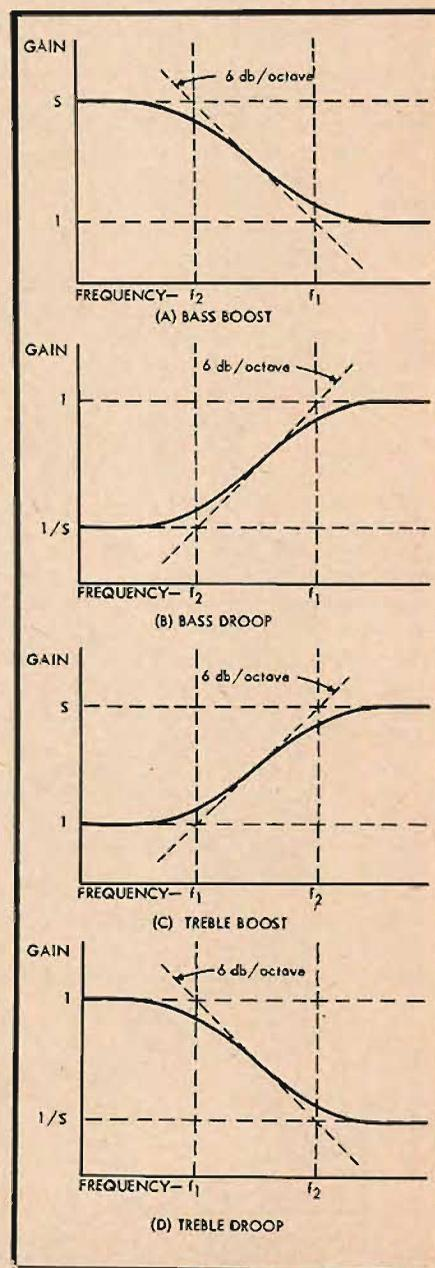

Fig. 8. Generalized curves for the equalizer frequency responses.
The general form of the response is sketched out in *Fig. 8(A)*. The gain above the upper turnover frequency is asymptotic to unity. Between the two turnover frequencies the gain is asymptotic to a line with a slope of 6 db per octave or
value of S equals $20 \log_{10} S$. Bass droop can be obtained using the same circuit by merely interchanging the input and plate connections, so the same relationships can be used for synthesis of the bass-droop curves. The general form of the response is sketched out in Fig. 8(B).
curves for boost and droop are shown in (C) and (D) of Fig. 8.